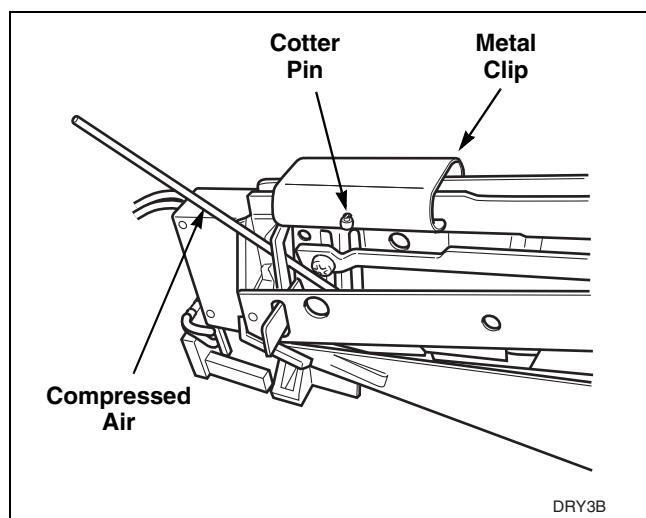

Figure 19
- If lint is preventing coins from rolling through coin drop, blow compressed air through coin entry and along the side of the coin drop. Refer to *Figure 19*.
- Remove cotter pin from top of drop. Refer to *Figure 19*. Save pin for reinstallation when cleaning is complete.
- Move metal clip closer to sensor so that it comes off frame. Refer to *Figure 19*.